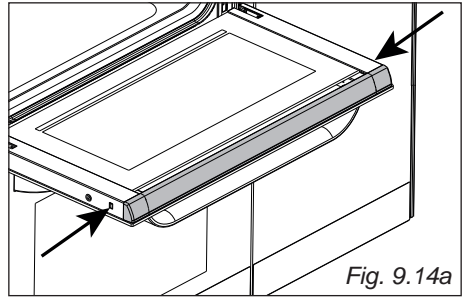
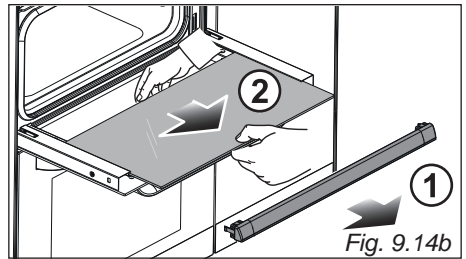

Fig. 9.14a
Fig. 9.14b
- Press the tabs on the sides of the glass retainer which is positioned at the top of the oven door (arrows in fig. 9.14a), then gently remove the retainer (arrow 1 in fig. 9.14b).
- Gently pull out the inner pane of glass (arrow 2 in fig. 9.14b).